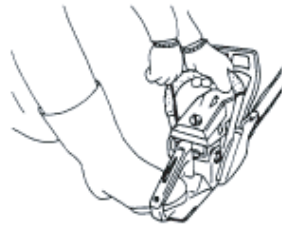

Fig. 11
5. Pull recoil starter briskly again in the aforementioned manner. (Fig. 11)